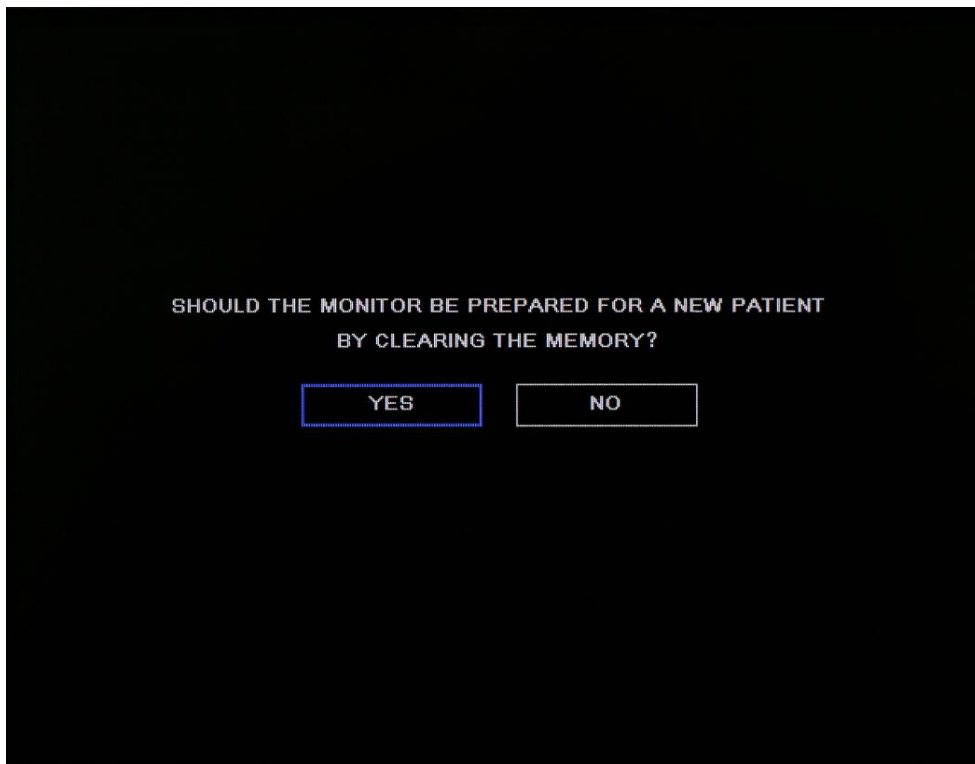

Figure 34 - Trend Memory Message
4. When the machine is turned on, a message appears, suggesting that you erase the trend memory in order to start a new patient without information from previous patients in the trend memory. This screen appears in Figure 34 - Trend Memory Message, below. Click *YES* to erase the trend memory. If you intend to continue measurement of the same patient as previously, you may want to retain the trend memory. In that case, click *NO*. If you record patient data as part of a case, trend memory will always be erased when you close the case.